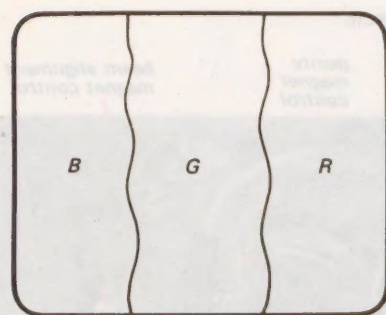

Fig. 3-3. Correct setting of purity-magnet
- 7. Adjust the purity magnet control to center the vertical green band on the screen. See Fig. 3-3.